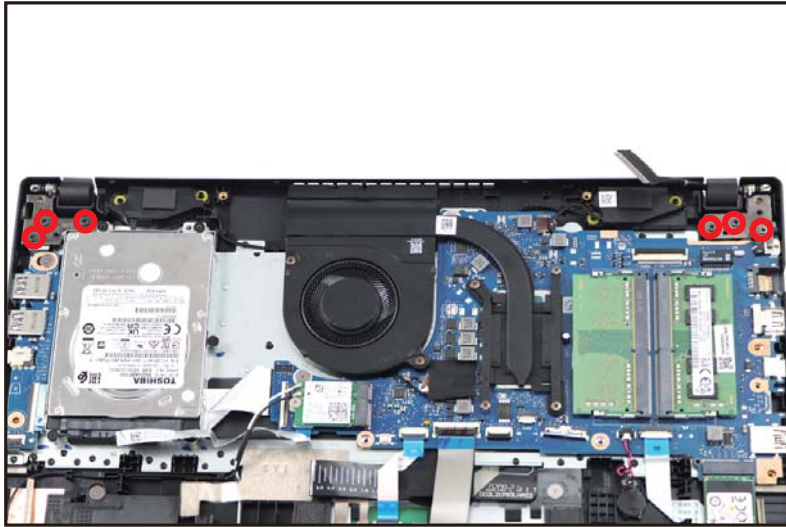

Figure 1-20. LCD Module Removal
3. Remove six (6) screws securing the LCD hinges (Figure 1-20).